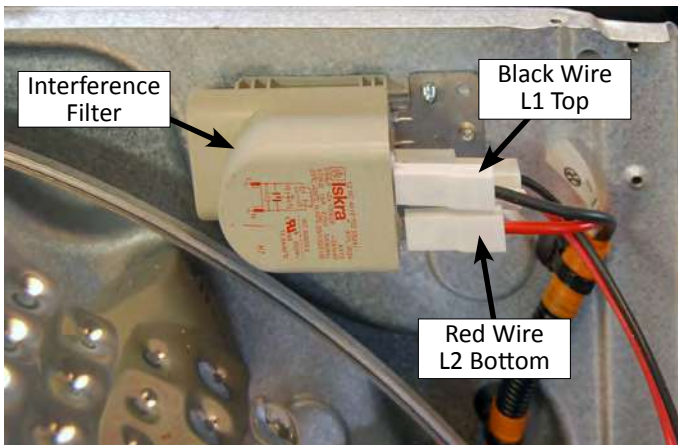

Figure 1
3. Remove the harnesses from the Interference Filter (see Figure 1).